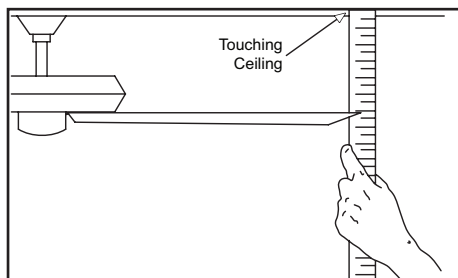

Figure 14
2. Most fan wobble problems are caused when blade levels are unequal. Check this level by selecting a point on the ceiling by measuring from a point on the center of each blade to the point on the ceiling. Measure this distance as shown in Figure 14. Rotate the fan until the next blade is positioned for measurement. Repeat for each blade. Measurements deviation should be within $\frac{1}{8}$ ". Run the fan for 10 minutes.